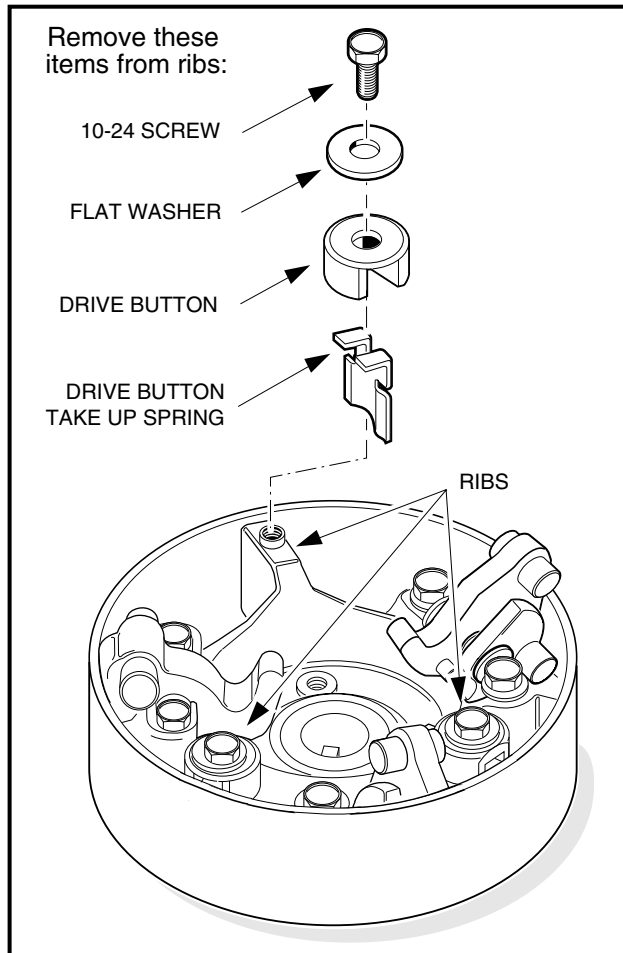

Figure 17-8 Drive Button Mounting
- 4.1. Remove the screws, flat washers, drive button take-up springs, and drive buttons. (Figure 17-8, Page 17-9).
14. Compress the take-up springs and install the drive buttons over the ribs and take-up springs (**Figure 17-8, Page 17-9**).